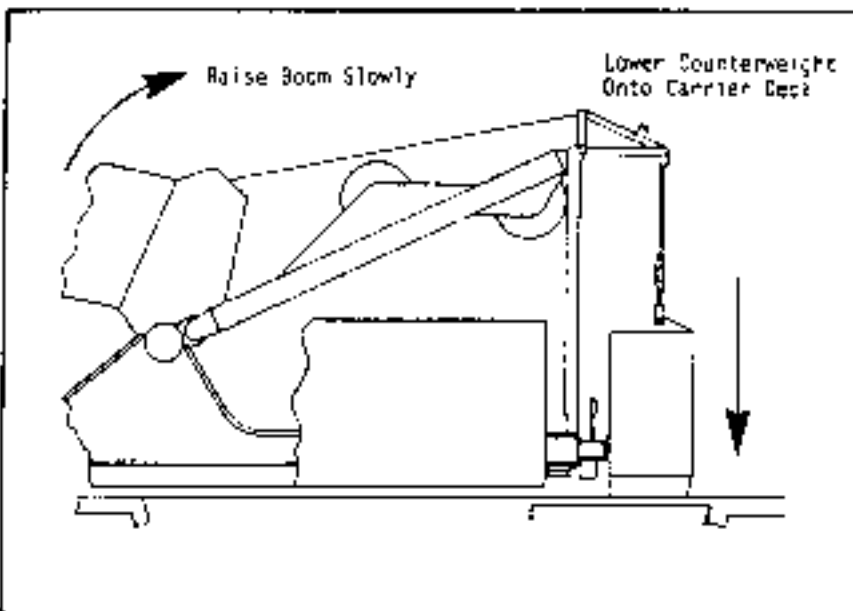

Fig. 1-35
- (g) Boom up until the counterweight rests on the carrier frame and pendants become slack. Refer to Fig. 1-35.